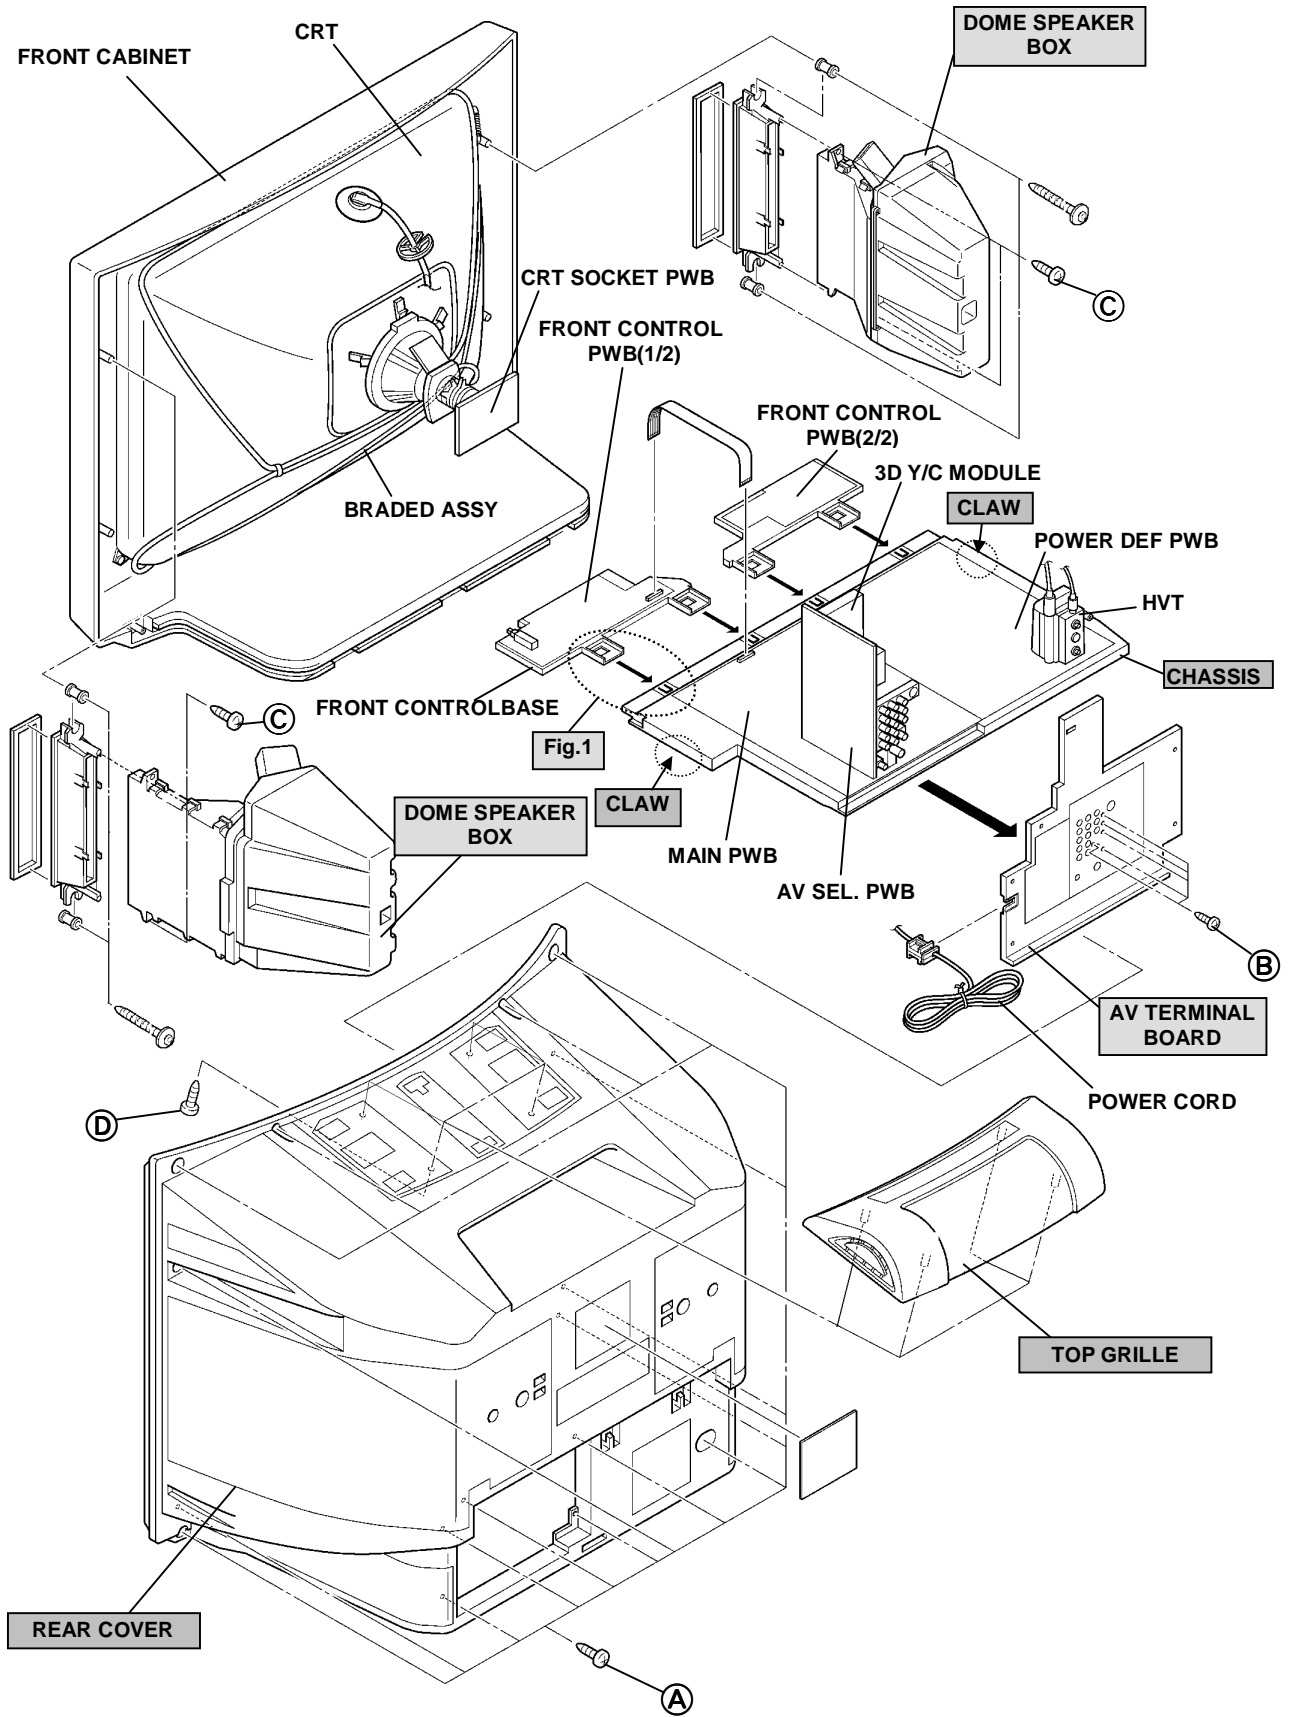

Fig.2
2. As shown in the Fig.2, remove the **16** screws marked **(A)** .
1. As shown in Fig.2, remove the **5** screws marked **(B)** .
1. As shown in Fig. 2, removing the **2** screws marked **(C)** , then remove the dome speaker box backward.
1. As shown in Fig.2, removing the **4** screws marked **(D)** .